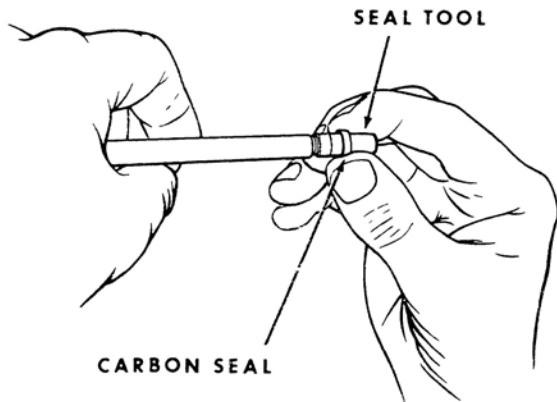

Figure 9
Remove protective caps from the injectors. Install a new compression seal (6) and new carbon seal (7) using the carbon seal tool, Case No. A42449, Figures 9 and 10.